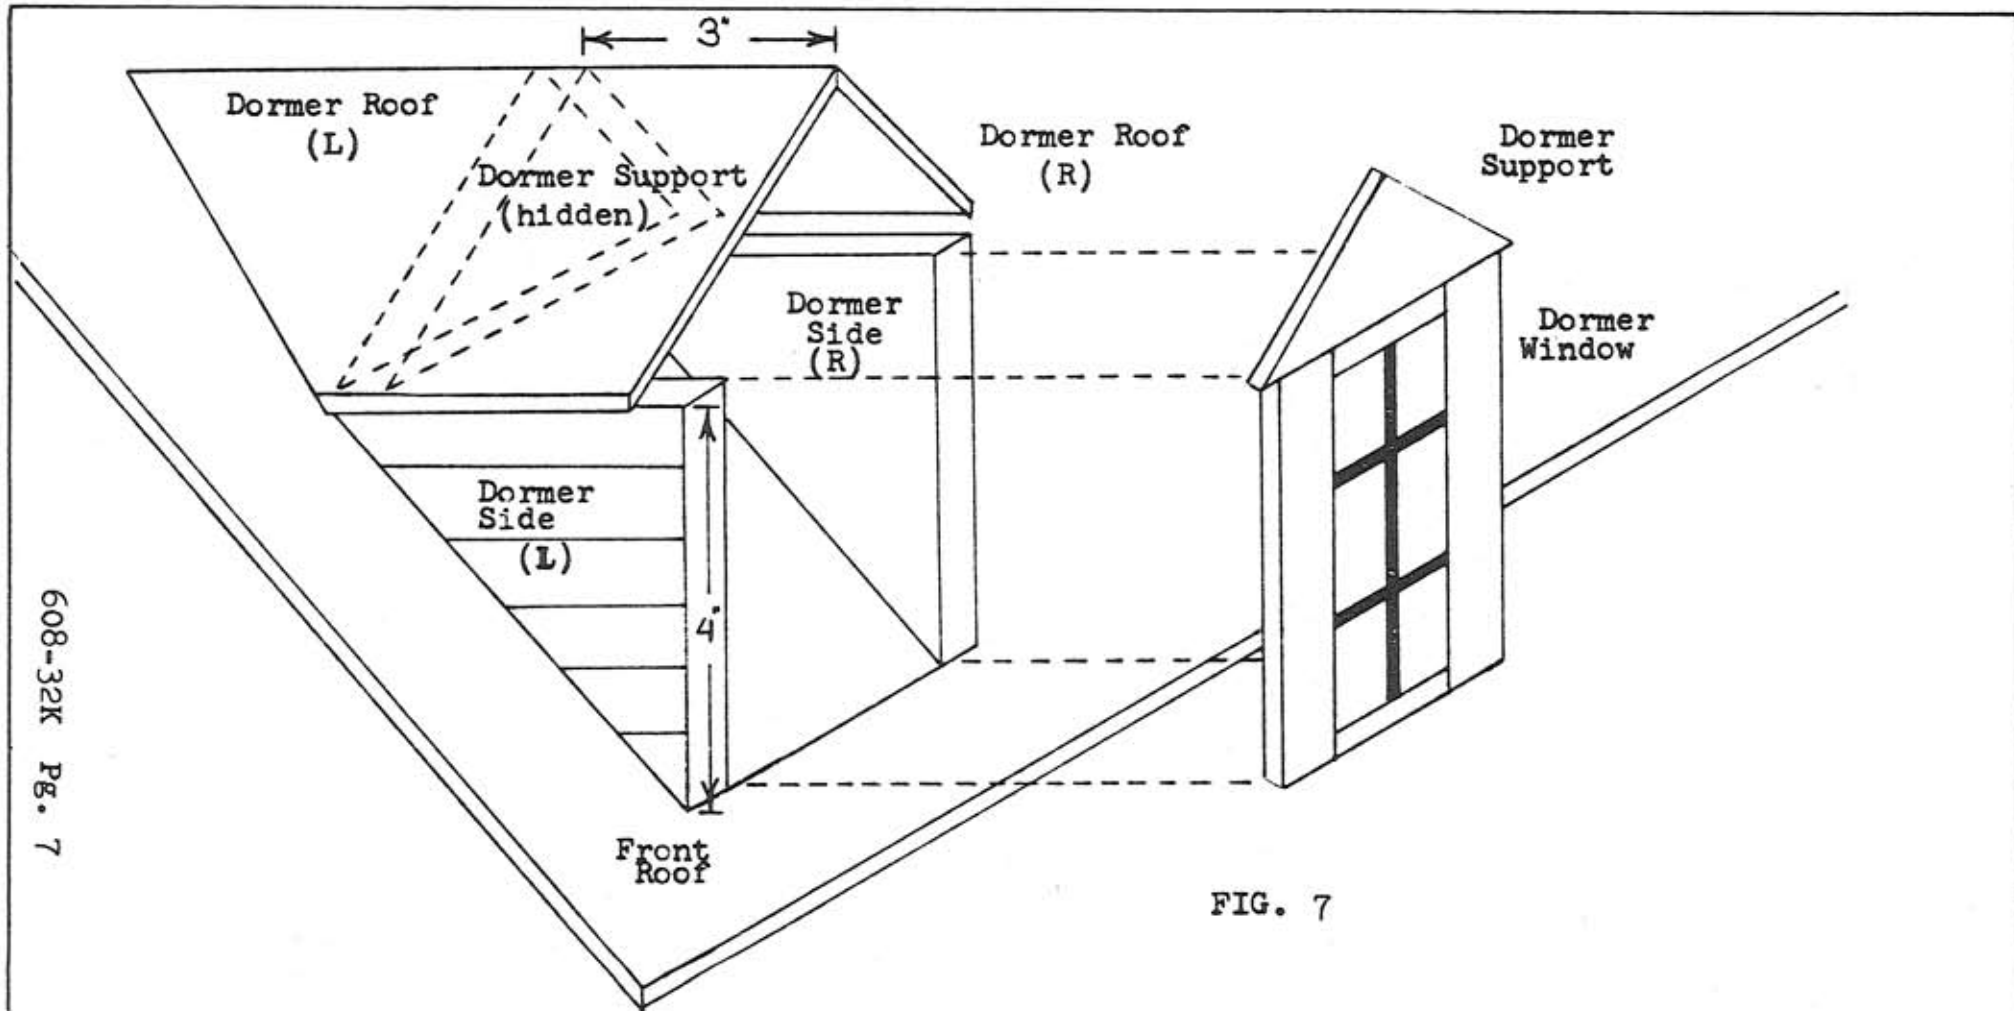

FIG. 7
- 25.) Glue the triangular dormer sides into position with the 4 inch edge facing front, clapboard side facing out, as in FIG 7.
- 26.) Next, glue one of the triangular dormer roof supports to the top edge of the dormer window. (FIG 7)
- The triangular support should be about 4" back from the front as shown in FIG 7.